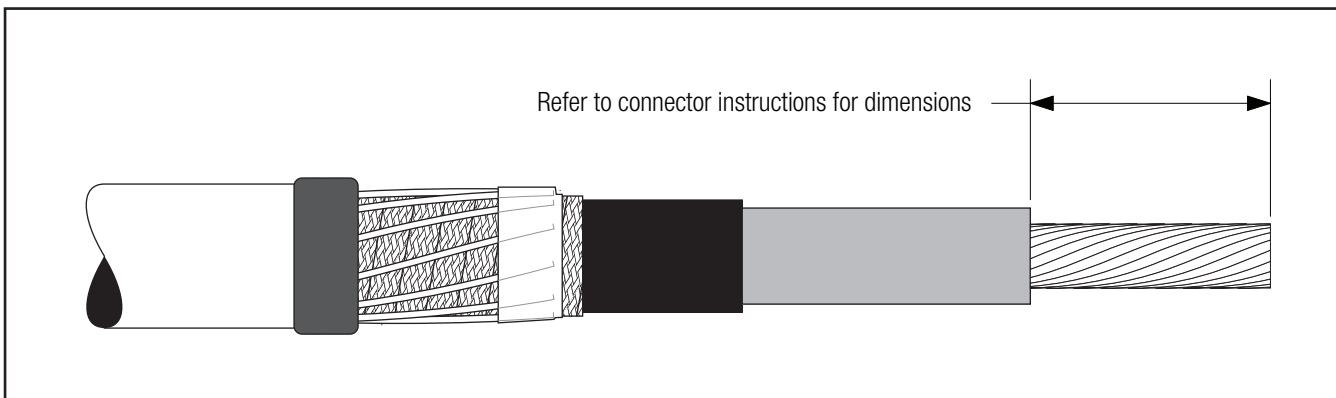

Figure 7
- 3.1** If using a 3M Shearbolt Connector QCI 500-1000, refer to the instructions included with the connector for insulation cut-back dimension. Insulation removal length shall not exceed 3 3/4" (95 mm) from conductor end (*Figure 7*).